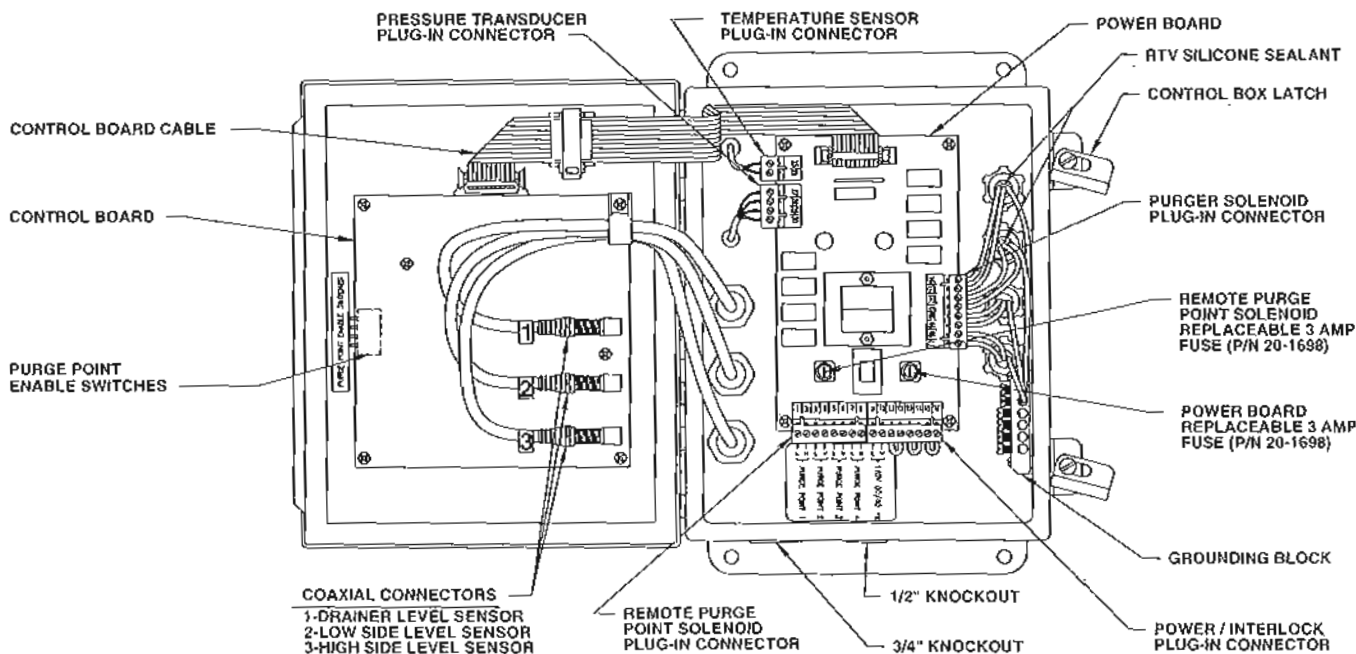
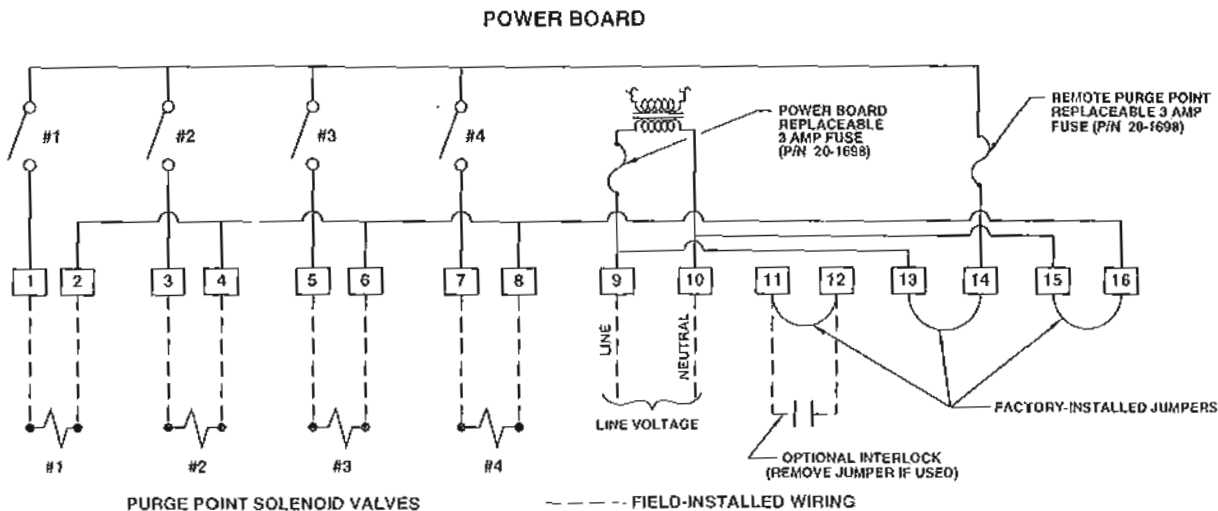

Figure 4.
Figure 5.
The standard electrical requirement for the APM is 115V 50/60 Hz. Also available is 230V 50/60 Hz. The control cabinet has a bottom 1/2" knockout for power connection and bottom 3/4" knockout for individual purge point solenoid valves (See Figure 4). Any additional knockouts, if necessary, should be made on the bottom of the control cabinet. A grounding block inside the control cabinet is provided for 3-wire purge point solenoid coils. Carefully study the wiring diagram below (Figure 5) to avoid electrical short circuits.
**Check:** Look for a closed liquid line shut-off valve. Also, check that the liquid line solenoid valve (B) is energized.
**Check:** With the temperature sensor plug-in connector disconnected from power board (see Figure 4), check the electrical resistance of the sensor across the wire leads.